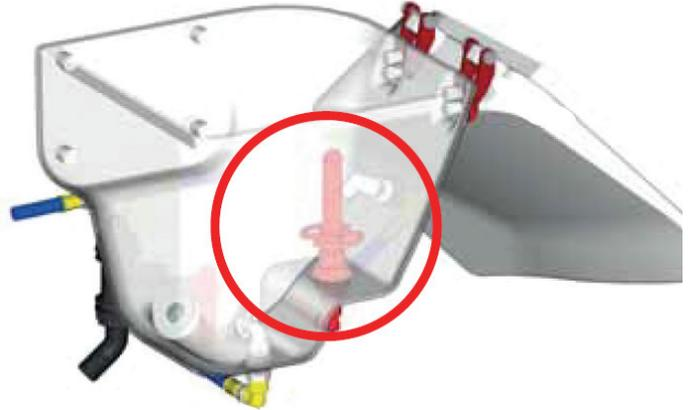

Figure 39
4. The chemical is poured into the mixer and after th washing valve of the drug canister on the mixer is opened to clean the empty drug canister, the drug canister is pressed on the sprinkler and the drug canister is cleaned. **(Figure : 39)**